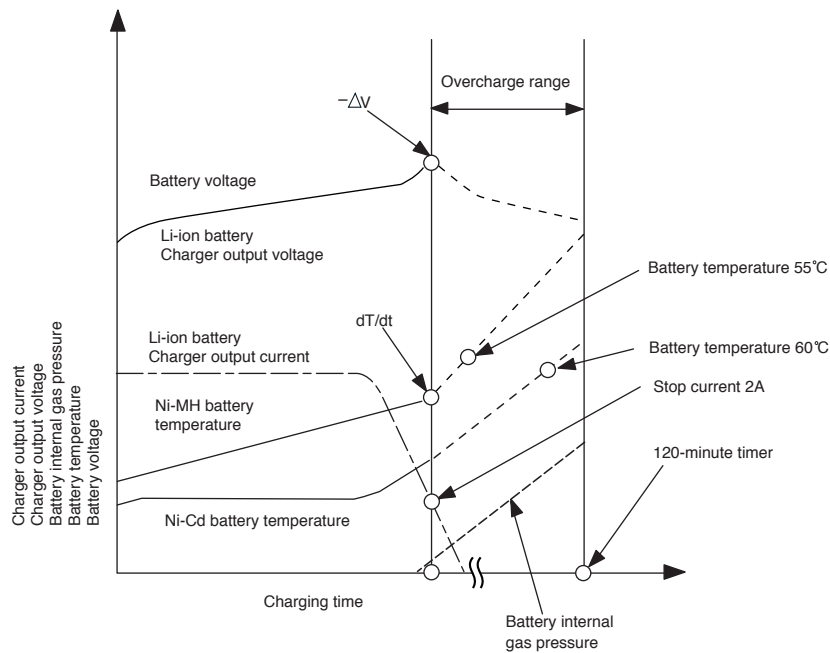

Fig. 7 Relationships of time, voltage, temperature and gas pressure while charging
- (A) • $-\Delta V$: This detects the fall in battery voltage at the end of charging using the value $-\Delta V$ and suspends charging.
- (B) • Built-in battery temperature sensor : In the event both the $-\Delta V$ system and the dT/dt system fail to detect completion of recharging, recharging is automatically stopped when the battery temperature reaches 60°C in the case of the nickel cadmium (Ni-Cd) batteries or 55°C in the case of the nickel metal hydride (Ni-MH), SUPER nickel metal hydride (SUPER Ni-MH) and lithium-ion (Li-ion) batteries.
- (C) • Timer : Should both the $-\Delta V$ system, dT/dt system and the temperature sensor fail, the timer automatically stops charging within 120 minutes from the beginning of charging.
- (Note 4) As shown in Fig. 7, the pressure of gas generated after a battery has become fully charged rises rapidly to cause high temperature and high gas pressure that degrade the effectiveness of the battery. If charging is allowed to continue, the pressure of the gas will activate the safety valve in the battery, and the electrolyte will begin leaking.